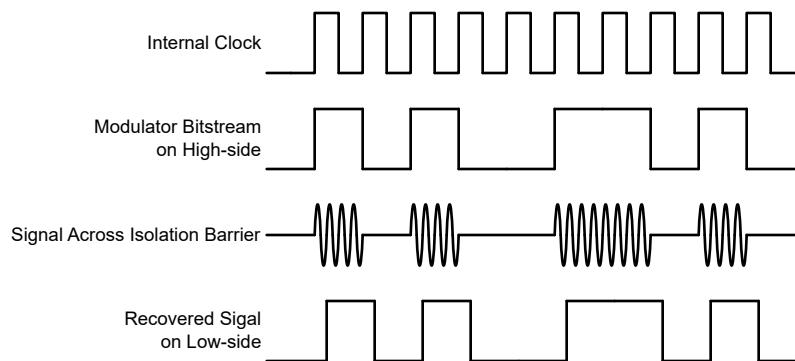

Figure 7-1. OOK-Based Modulation Scheme
The AMC3311 uses an on-off keying (OOK) modulation scheme, as shown in Figure 7-1, to transmit the modulator output bitstream across the SiO_2 -based isolation barrier. The transmit driver (TX) depicted in the *Functional Block Diagram* transmits an internally-generated, 480-MHz carrier across the isolation barrier to represent a digital one and does not send a signal to represent a digital zero.